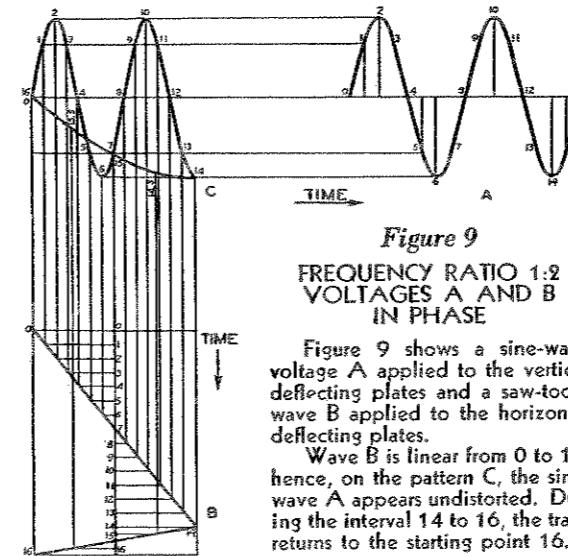

**Figure 8**
Figure 8 shows the effect of phase shift on the pattern of Figure 7. The voltage A is three times the frequency of the voltage B and leads it by 90°. In this pattern, all three peaks are visible.
are the voltages applied to the deflecting plates. In this case, the frequency of A is three times that of B. The resultant figure (C) shows a 1:3 pattern in which both voltages start in phase. Figure 8 is the same as Figure 7 except that voltage A is started 90 degrees out of phase with respect to voltage B. Figure 9C shows the resultant pattern obtained where B is a saw-tooth wave and A a sine wave. This is of interest because this type of wave form results when a linear timing axis is used. Figures 11, 12, and 13 show patterns of increasing complexity, Figure 13 being an 8:6 pattern.